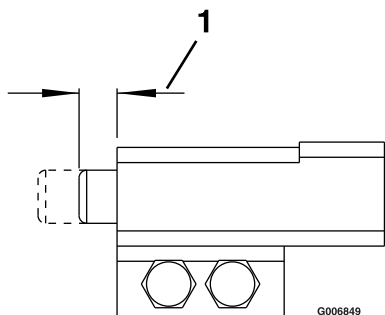

**Figure 11**
3. Adjust belt guides as shown in Figure 11.